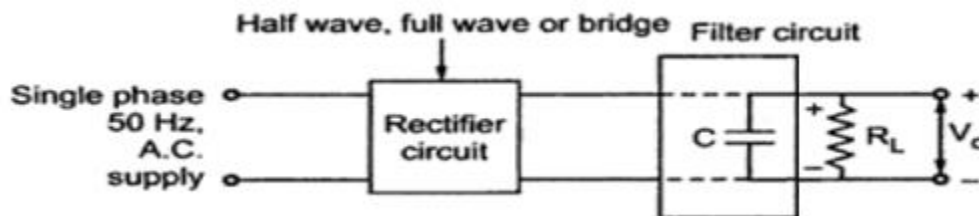

Fig. 2.8 Block Schematic of capacitor filter
- The block schematic of capacitor filter is shown in the Fig. 2.8.